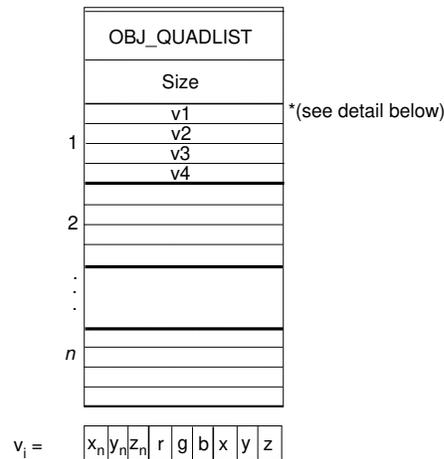

Figure 2-2 SGO quadrilateral list object
- Figure 2-2** SGO quadrilateral list object 9
Figure 2-2 shows the structure of an SGO quadrilateral list object. The object begins with the object token, followed by the size (in 4-byte words) of the data for this object. Next follow nine words of data for each vertex in the object. As shown at the bottom of Figure 2-2, the first three words are the xyz components of the normal vector at the vertex. The next three words are the RGB color components at the vertex. The last three words are the xyz coordinates of the vertex itself.